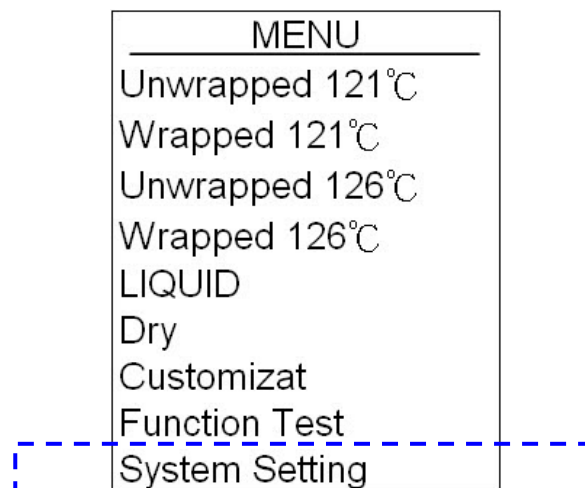
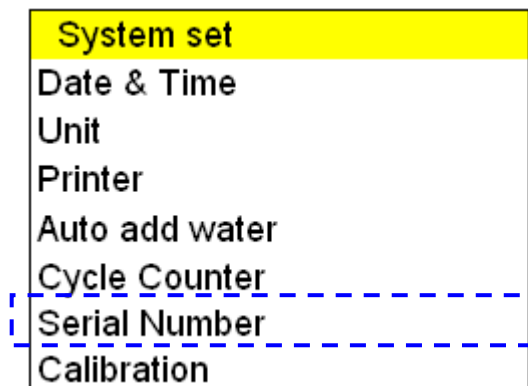

Figure 139
Figure 140
- A. Press  or  button to select System Setting program (Figure 139), and then press  button to view the Series Number, as shown in Figure 140.